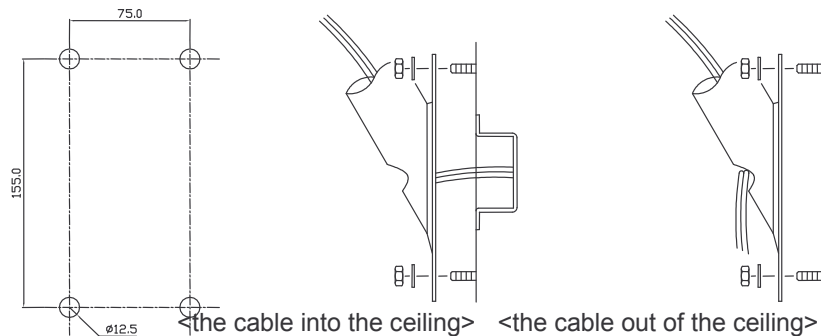

FIG.16
1. If you want to install the speed dome on the concrete wall, you need to make 12.5mm diameter 4 holes by drill like FIG.16 (Depth 37mm)